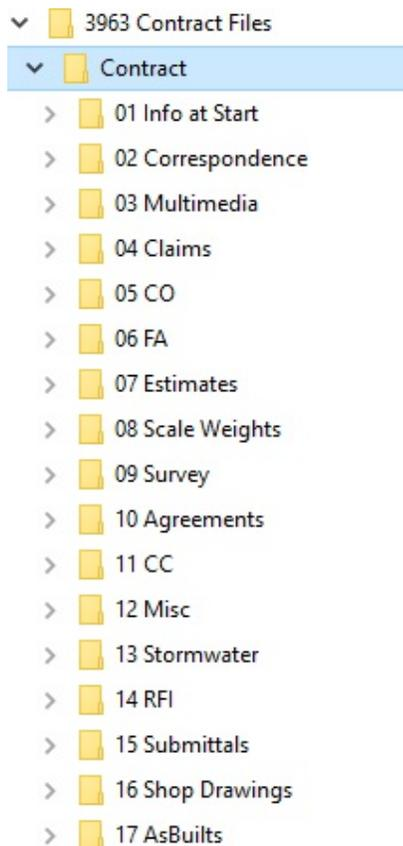

**Figure 2-11: Contract Files Sub-directories**
11. The Contract Files directory template contains two sub-directories (Contract and Materials) and a file index spreadsheet (Figure 2-11). Each sub-directory contains additional sub-directories (Divisions) that are explained in the following sections.